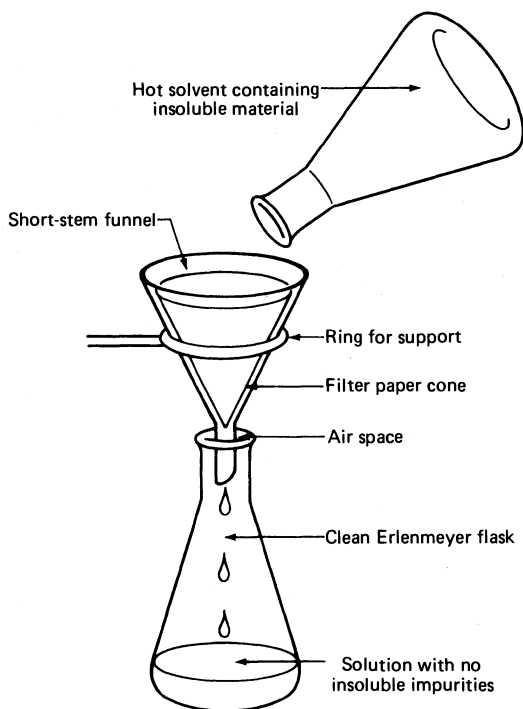
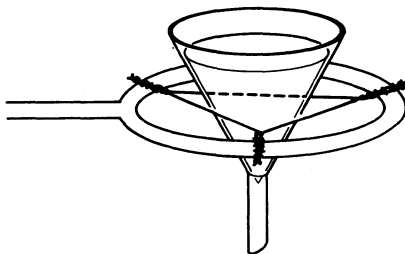

Fig. 44 The gravity filtration setup with a funnel that fits the iron ring.
Fig. 45 A wire triangle holding a small funnel in a large iron ring for gravity filtration.
4. Support this in a ring attached to a ringstand (Fig. 44). If the funnel is too small and you think it could fall through the ring, you may be able to get a **wire** or **clay triangle** to support the funnel in the ring (Fig. 45).